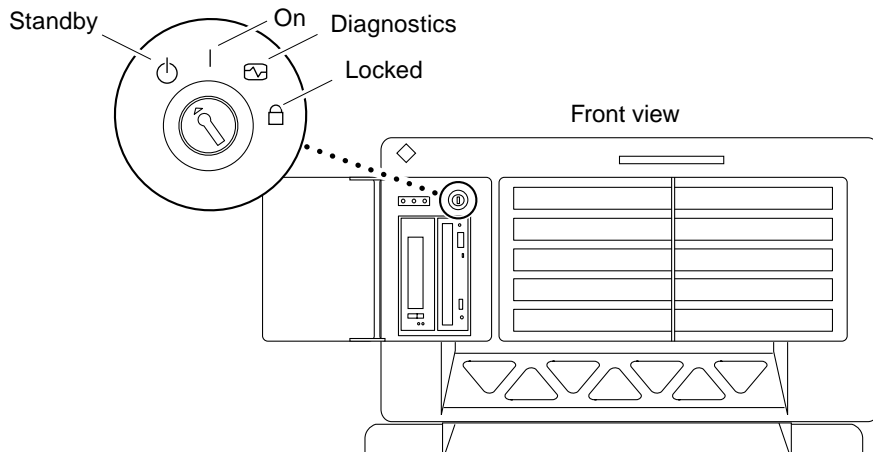
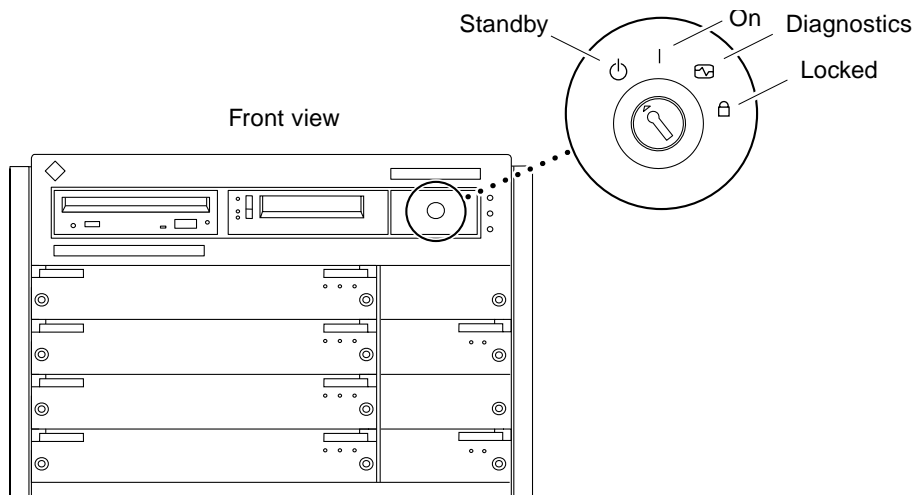

FIGURE 11-1 Key Switch (Enterprise 6500 and 5500)
FIGURE 11-3 Key switch (Enterprise 4500)
6. **Turn the front panel key switch to the Standby position (FIGURE 11-1).**
5. **Turn the key switch on the front panel of the server to the Standby position (fully counterclockwise) (FIGURE 11-3).**
1. **The system key switch must be turned to  (the standby position)** (FIGURE 11-1 or FIGURE 11-3).
5. **Turn the front panel key switch to  (the power on position)** (FIGURE 11-1 or FIGURE 11-3).